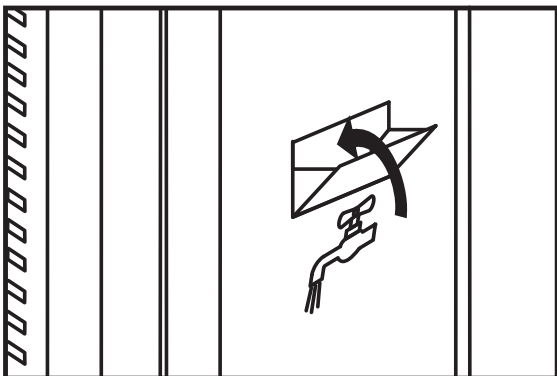

Fig. 5
- ▶ **4.1.3.** Close the tank door (Fig. 5).